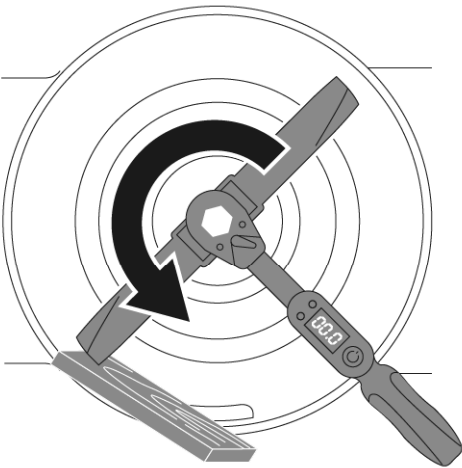

Figure 12
3. Tip the machine onto its side with the air filter and carburetor facing up. Use a block of wood to hold the blade steady. (See Figure 12)